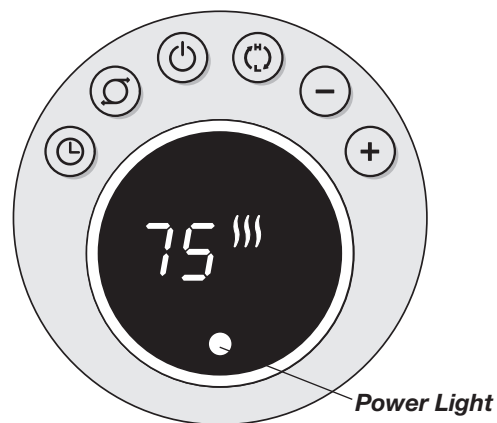

Figure 1
3. When the Heater is initially plugged in, there will be a "beep" and the **Power Light** will come on indicating that there is power to the unit. The **Power Light** will remain lit until the Heater is unplugged from the electrical outlet. (Figure 1)
6. Upon turning the Heater on, the unit will be in HIGH heat (III) (1500 Watts) and will display the current room temperature. (Figure 1)
7. Press the (⏻) button for LOW heat (I).